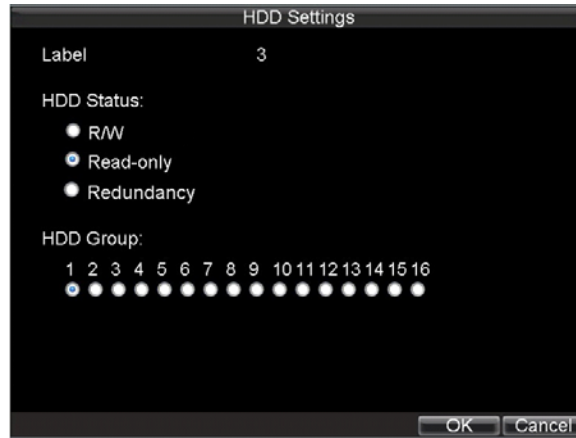

Figure 9. HDD Property Settings Menu
4. Click the *Property* button to enter the Property Settings dialog box, shown in Figure 9.